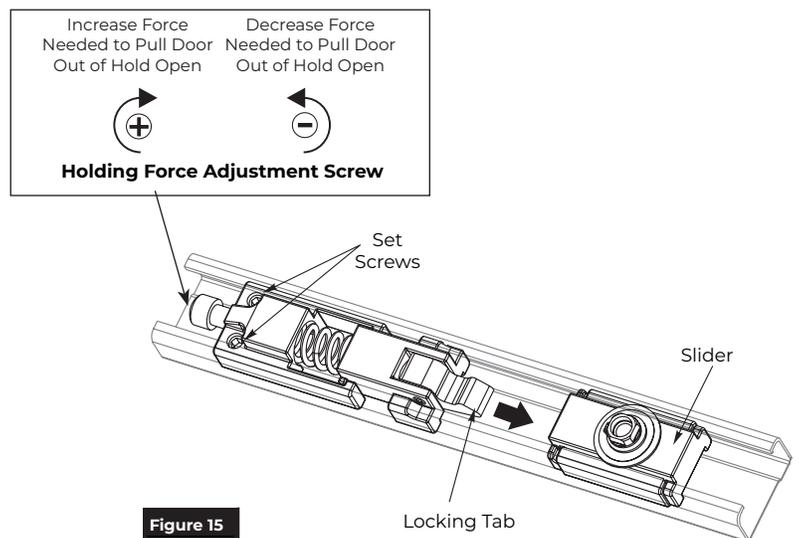

Figure 15
1. Insert locking tab of hold open assembly into track slider. (Figure 15)
3. Tighten hold open set screws to lock down hold open assembly. (Figure 15)
5. Adjust hold open by turning adjustment screw with provided 3/16" hex wrench. (Figure 15)